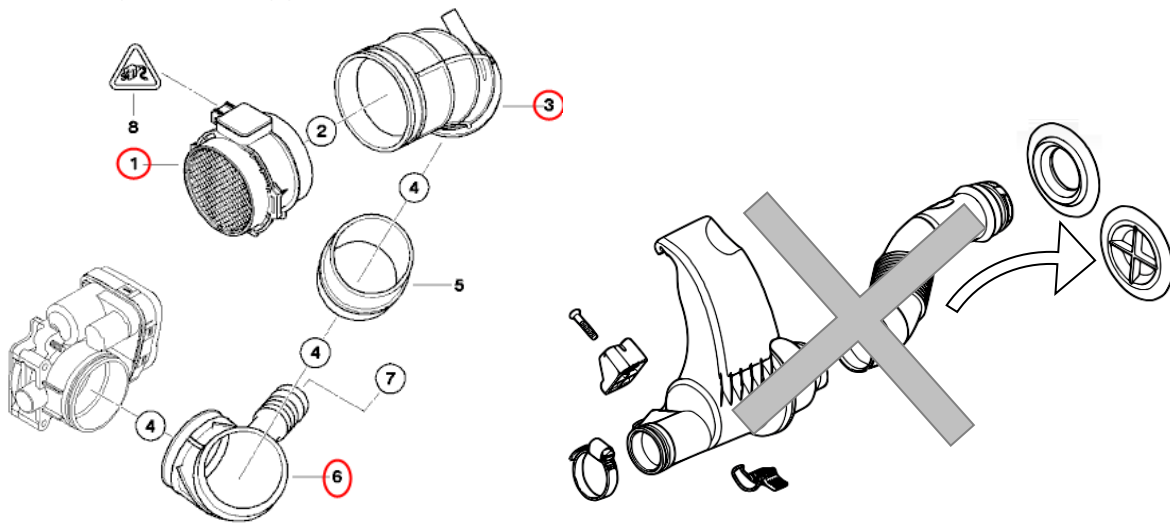
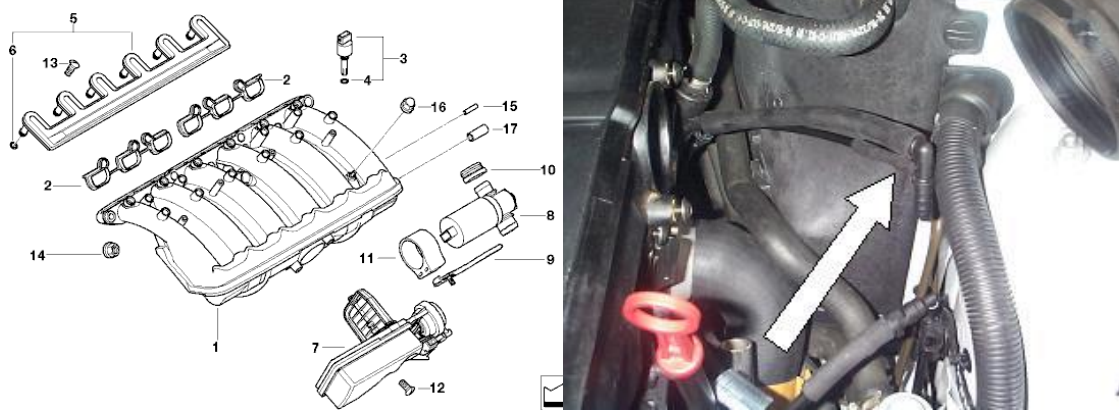

Figure 3
Figure 8
6. Disassembly Rubber hoses and hose clamps (Figure 3, #3&6). These Components are no longer needed. Pull off the vacuum hose for fuel pressure regulator plugged in Figure 3, #3. This is needed later in Figure 8.
7. Unplug and dismantle DISA unit and idle air control valve (Figure 8, #7&8)
Make sure that the bolt of the DISA (Figure 8, #7) does not fall into the intake manifold
18. Remove the smaller plug with inside diameter 3.5mm from the intake manifold (Figure 8, #16). Connect the control hose for the fuel pressure regulator, which has been removed at step 7, to the manifold.